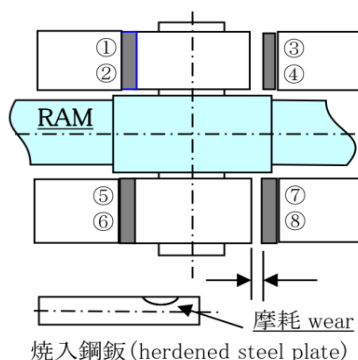

Figure. 2 The clearance between roller bearing and ram pin..
First, turn the tiller to starboard or port side so that the roller bearing are in touch with the hardened steel plate on one side. Then measure the clearance between the opposite hardened steel plate and the roller bearing. Please refer to Figure. 2 for the measurement points, and carry out the measurement for all points.(① to ⑧)